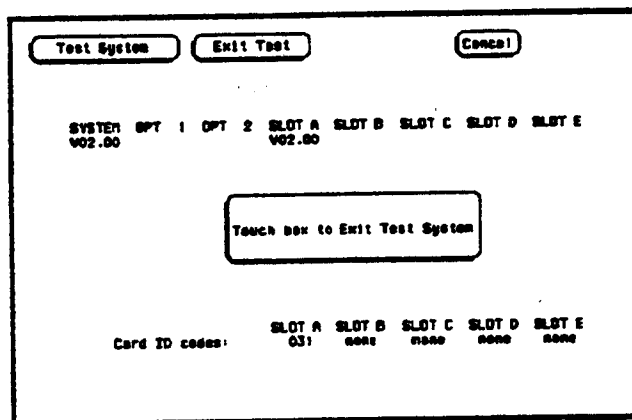

Figure 6-8. Exit Test System
- l. Insert the Operating System disk and touch the box to **Exit Test System**. See figure 6-8.